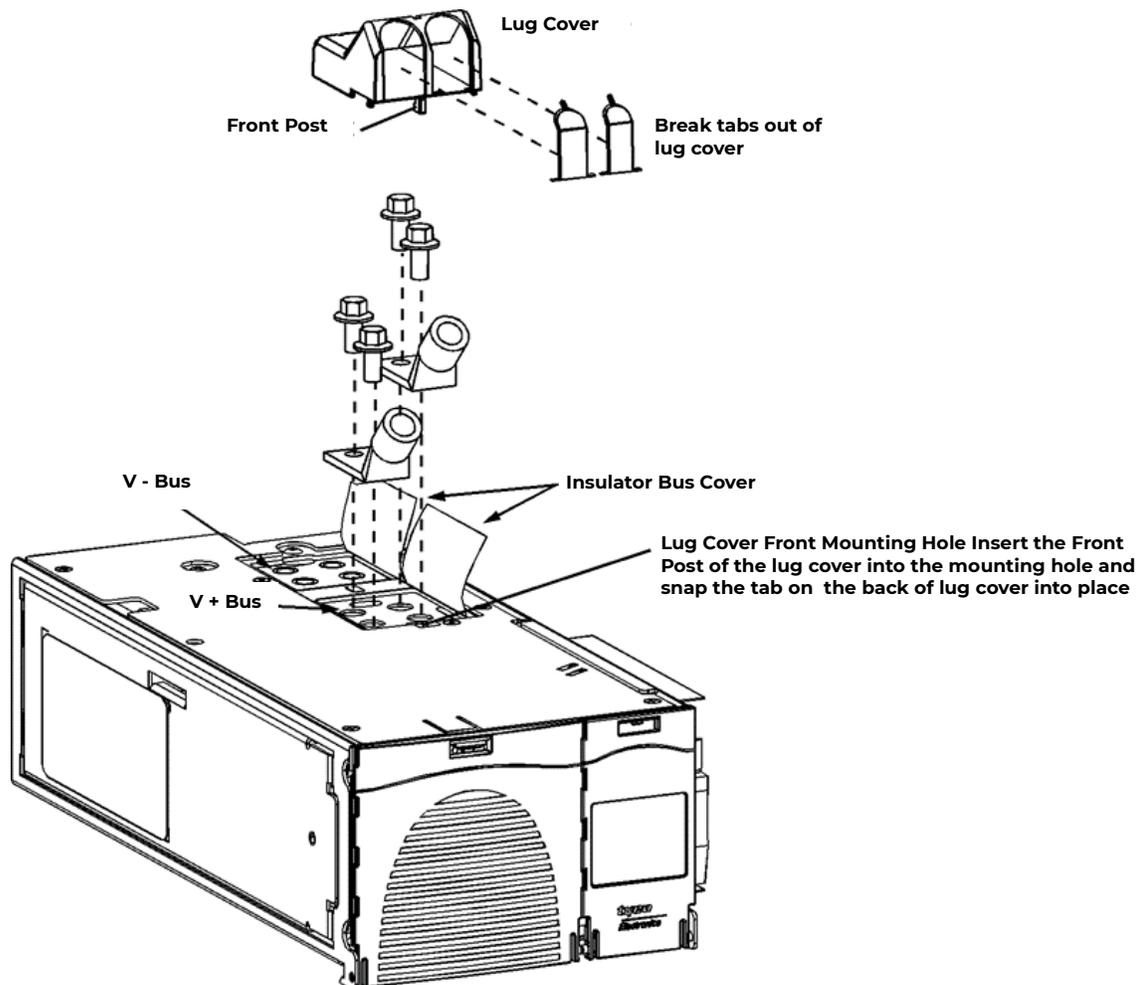

Figure 5-25: Direct Connection to V+ (shown) / V- Output Bus
Warning: Cables terminated directly to the DC output bus in Figure 5-25 are unfused. Ensure cables ends are protected before terminating cables.
2.	Break tabs off back of lug cover (see Figure 5-25).